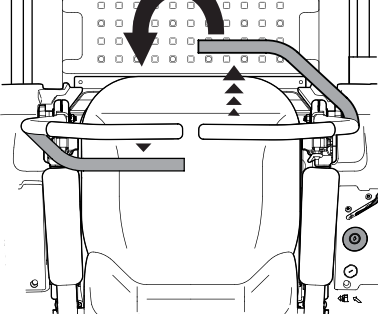

Figure 3-11
- To turn counterclockwise, move the right control lever forward while simultaneously moving the left control lever rearward. See Figure 3-11.